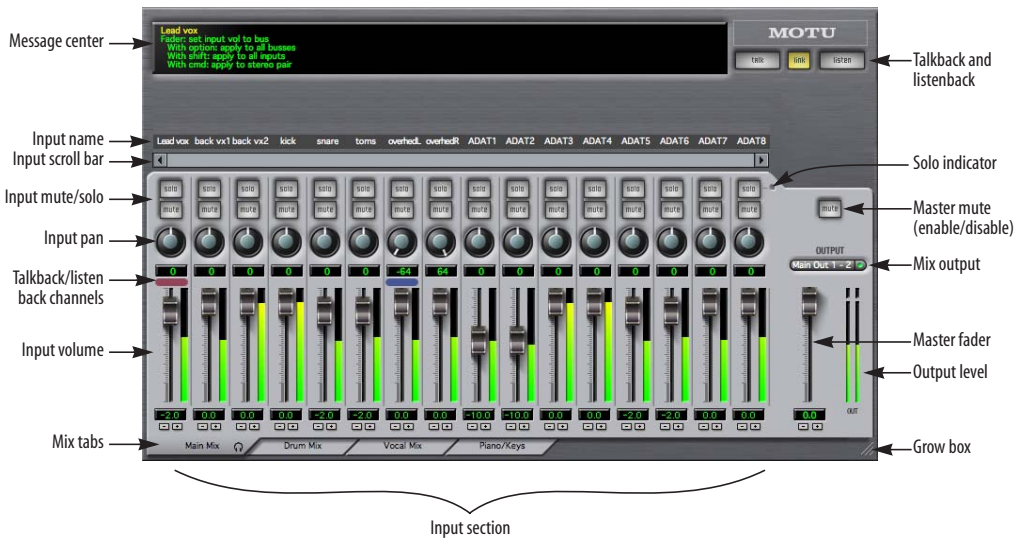

Figure 11-1: MOTU CueMix Console is a virtual mixer that gives you control over the 8pre's on-board mixing features.
CueMix Console displays one mix at a time. To select which mix you are viewing, click its tab at the bottom of the window, as shown in Figure 11-1. The mix name appears in the tab. Double-click the name to change it.
To view more input faders at once, drag the grow box (Figure 11-1) to the right.
To view a mix, click its tab at the bottom of the window, as shown in Figure 11-1. The mix name appears in the tab.
The master mute button (Figure 11-1) temporarily disables (silences) the mix.
The master fader (Figure 11-1) controls the overall level of the mix (its volume on its stereo output). Use the individual input faders to the left to control individual input levels.
To add an input to a mix, or remove it, click its MUTE button. To solo it, use its SOLO button. To toggle these buttons for a stereo pair, hold down the command key while clicking either channel. The Solo indicator LED (Figure 11-1) lights up when any input is soloed (including inputs that may currently be scrolled off-screen).
Use the input fader and pan knob (Figure 11-1) to adjust these settings for the input in the mix. Again, all settings within the gray-shaded channel strip area belong to the mix currently being viewed. Note that an input can have different settings in different mixes.
- 1 Select the source mix (Figure 11-1) and choose Copy from the file menu (or press command-C).
Choose Edit Channel Names from the CueMix Console File menu to open a window that lets you customize the names of the 8pre’s inputs and outputs. Your custom names appear in CueMix Console (in the input name strip as shown in Figure 11-1 on page 51) and in the input and output menus of your host audio software. For details, see “Edit Channel Names” on page 28.